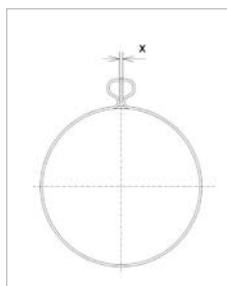

Figure 16: Diagram of an installed single ear clip
4. The positioned one ear clip should be fully compressed using special REHAU pliers. The crimping force applied must be high enough to ensure that the clip is firmly seated and the connection is unable to leak. In the crimped state, dimension "x" must be less than 2.0 mm. See Figure 16.